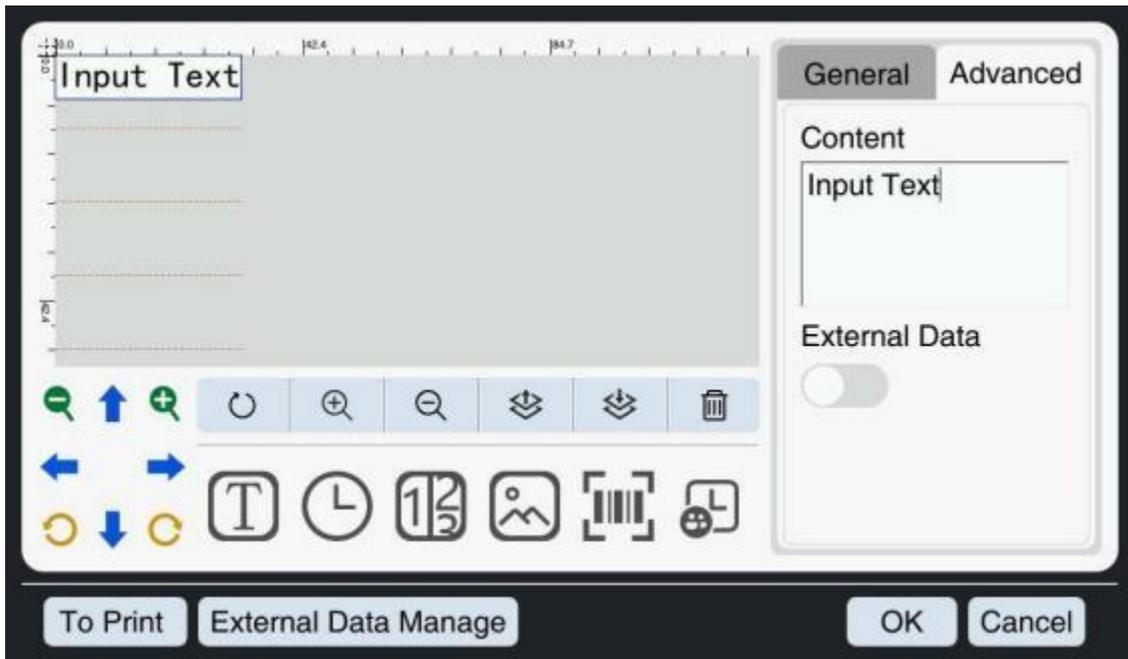

Figure 5-6 Text Editing Interface
1、 If you need to print Chinese characters (CN), English (EN), numbers, symbols, etc., please click the  button in the “Information Button Area”, then a default text entry will appear in the “Information Editing Area”. Click the content box of the “Information Attribute Area” and enter the required information in the pop-up keyboard. As shown in Figures 5-6.